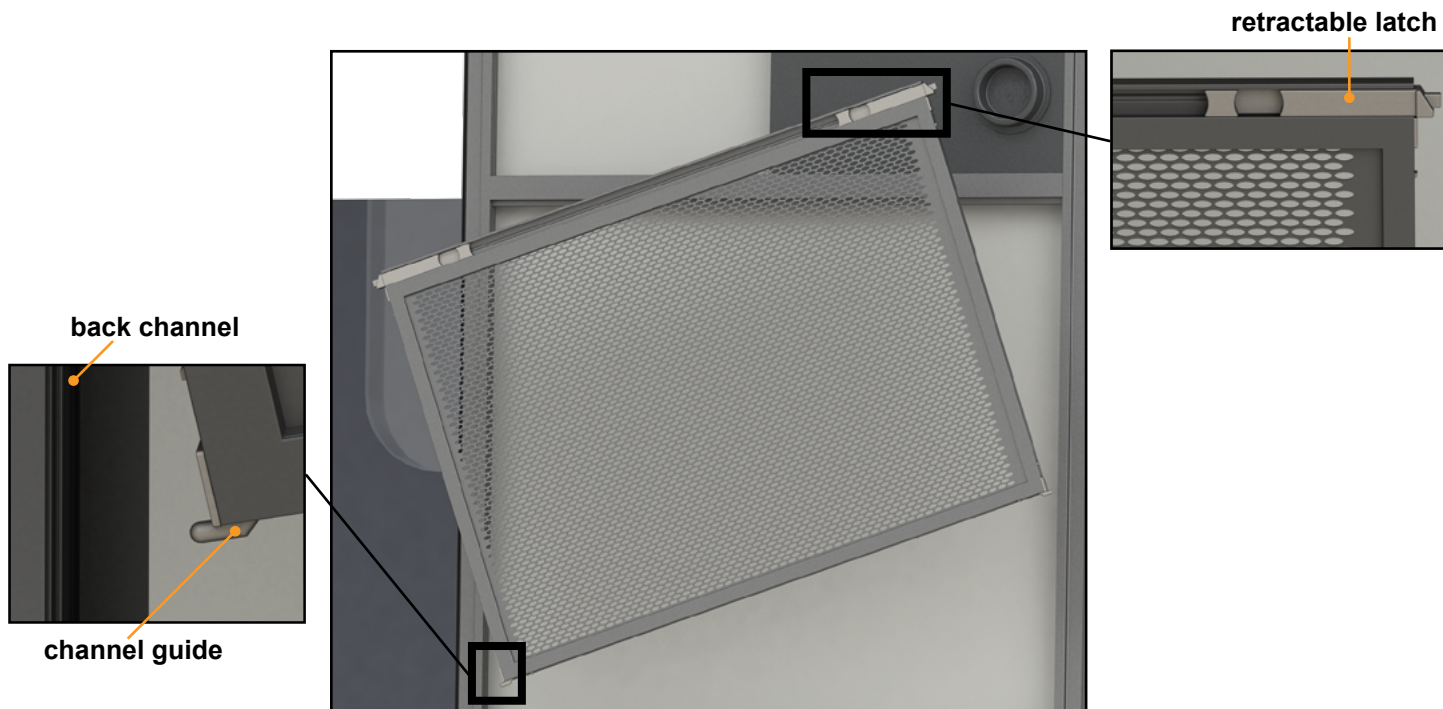

Fig.6
6. Tilt the Screen Defender and direct one side of the Screen Defender toward the back window channel of the screen door (Fig.6).
7. Insert the channel guide at the bottom of the Screen Defender into the back channel of the screen door (Fig.6).